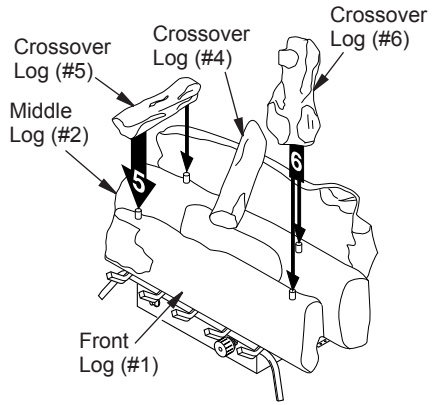
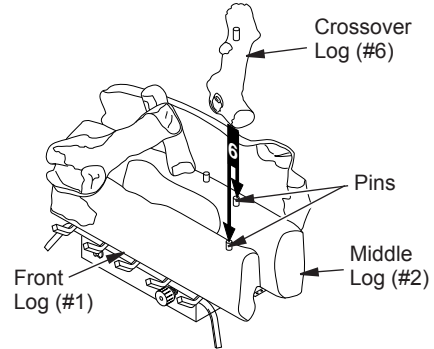

Figure 24 - Installing Crossover Log #5 and Log #6 (CCL3018PA/NA and CCL3018PTA/NTA Only)
Figure 25 - Installing Crossover Log #6 (CCL3930PTB/NTB Shown)
For **CCL3018PA/NA** and **CCL3018PTA/NTA** Only: Locate holes on the bottom of crossover log (#5). Slide the holes over the left pins on middle log (#2) and front log (#1). See Figure 24.
- Locate holes on the bottom of crossover log (#6). Slide these holes onto the right pins located in middle log (#2) and front log (#1). See Figure 25 for **CCL3924PTA/NTA** or **CCL3930PTB/NTB**. See Figure 24 for **CCL3018PA/NA** or **CCL3018PTA/NTA**.